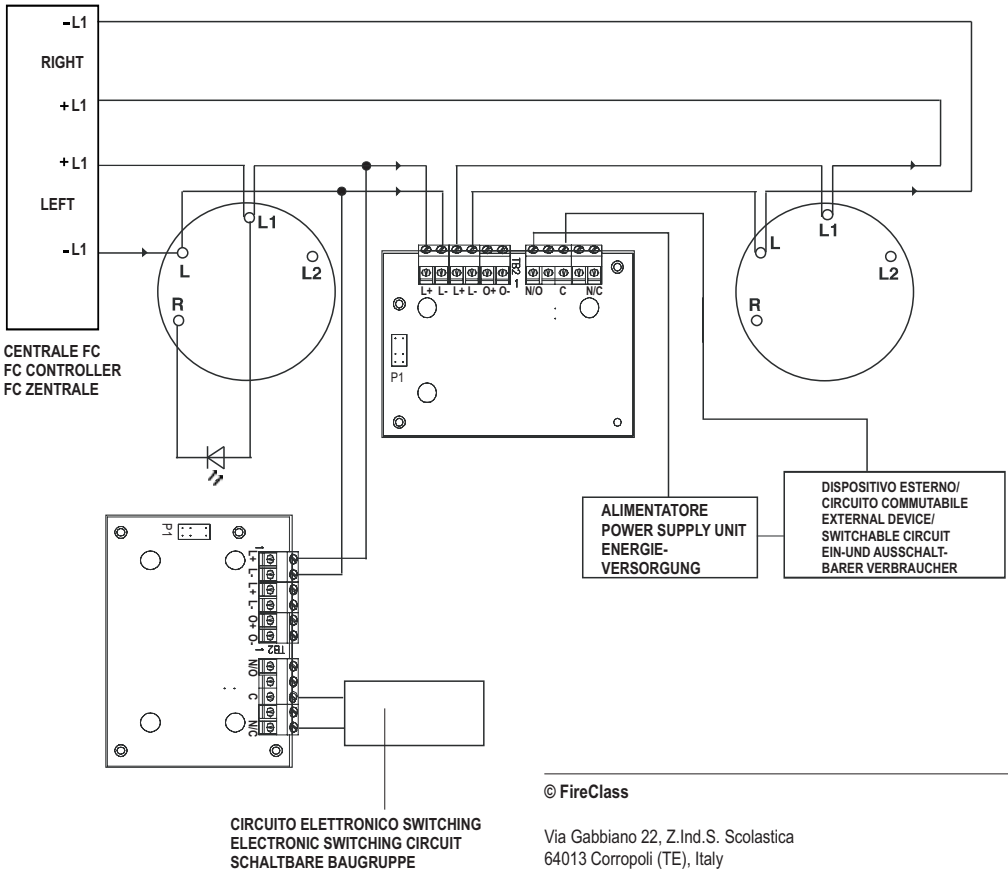

FIG. 4 FC410RIM Schema di collegamento
- 3) See Figure 4 for FC410RIM Simplified Wiring Diagram.